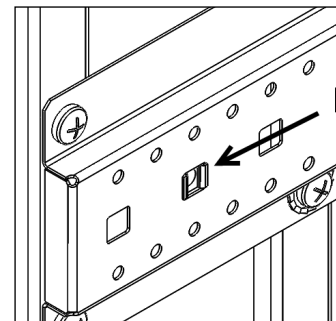
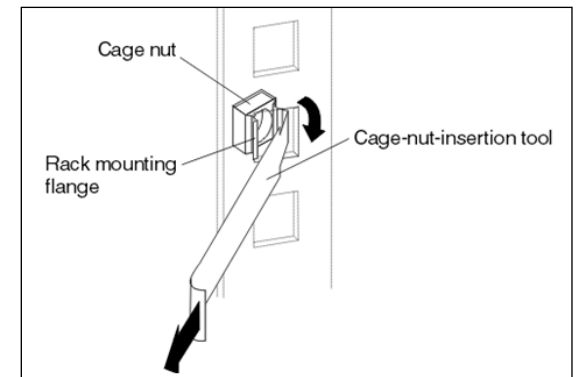

Figure 2
Figure 3
2. Install cage nuts in the appropriate locations on each slide (example shown in Figure 2). Cage nuts are installed on the back side of the slides using a screwdriver or cage nut installation tool as shown in Figure 3.